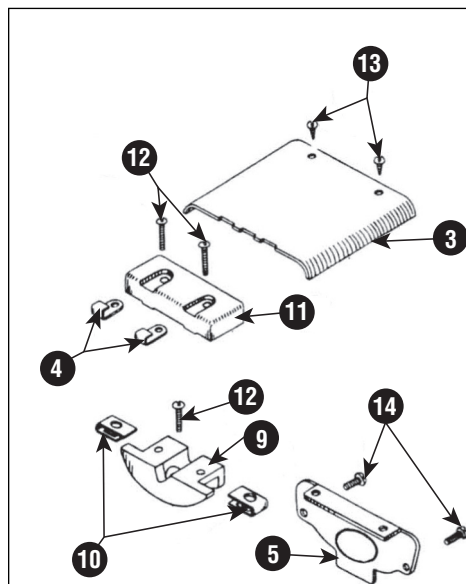

Figure 4 - Parts Bag 168-016505-002 (to convert Style 0, 1 and 3B)
heater's terminal arrangement and order the corresponding parts bag (Figures 4 and 5). If an element or other part listed in Table A (page 3) is necessary, order according to heater housing length and the voltage and wattage stamped on the element and the heater name-plate.
4. Besides the Parts Bag 168-016585-002 (Fig. 4), you will need insulation bushings **6**, element support clips **7**, reflector **2** and element (if required) as listed in Table A, page 2.